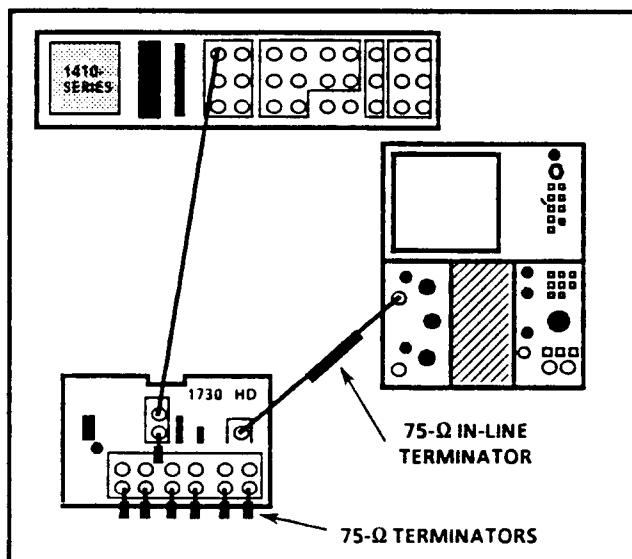

Fig. 5-5. Equipment hook-up for checking PIX MON OUT DC Level.
- b. Connect a 75 Ω cable with a 75 Ω in-line terminator from the 1730 HD rear-panel PIX MON OUT to the test oscilloscope vertical input. See Fig. 5-5.